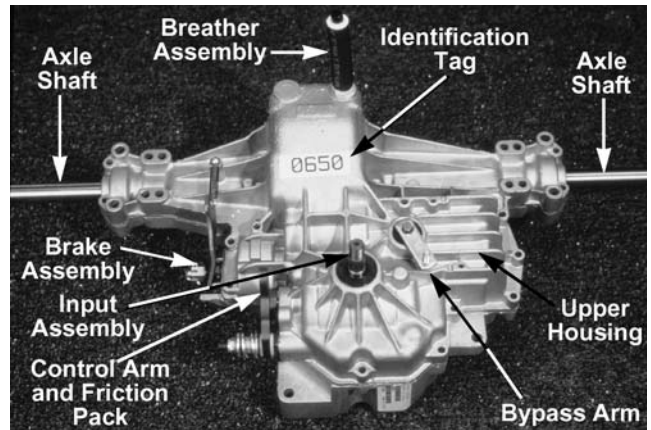

Figure 6-125
- I. Upper housing. See Figure 6-125.